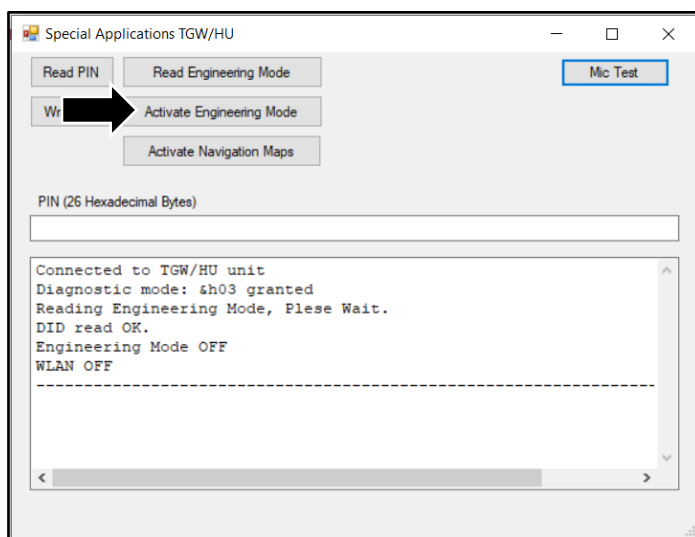

Figure 6
12. Select 'Activate Engineering Mode' (refer to Figure 6).